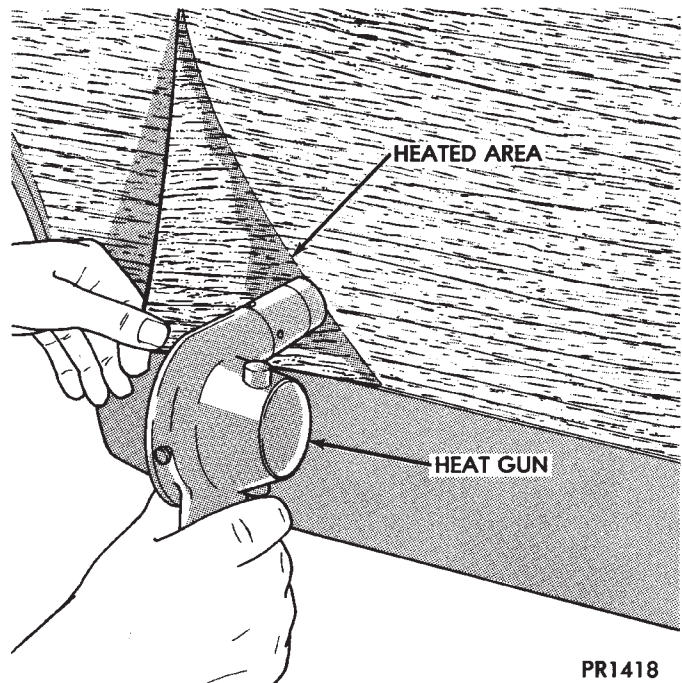

Fig. 63 Woodgrain Overlay Removal
(1) Remove the adjacent moulding from panel.
(2) Start at one corner and apply heat with a heat gun. Slowly peel the overlay from the panel (Fig. 63).